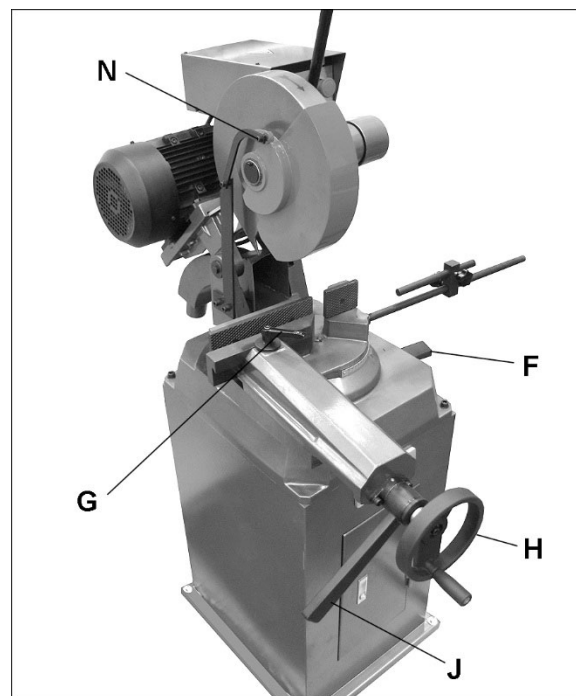

Figure 7-1 (AB-12 shown)
Refer to Figure 7-1.
1. Move lock lever (F, Figure 7-1) toward the front to release.
The AB-12 vise is self-centering and has a cam action lever for fast clamping. Turn handwheel (H, Figure 7-1) to move vise jaw about 1/16-inch away from work piece, then rotate cam lever (J) counterclockwise to tighten.
3. Remove screw (N, Figure 7-1) to release linkage from blade guard, and rotate guard out of the way.